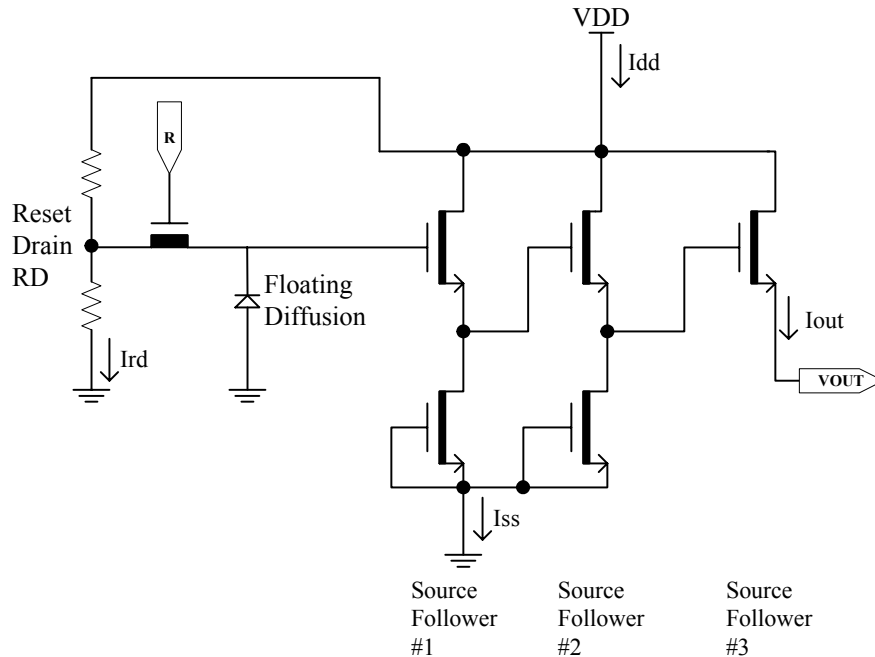

Figure 6 - Output Amplifier
- Each output. See Figure 6 - Output Amplifier. Note that the current bias affects the amplifier bandwidth.
1. The maximum DC current is for one output unloaded and is shown as Ird + Iss in Figure 6. This is the maximum current that the first two stages of one output amplifier plus the reset drain bias circuit will draw. This value is with Vout disconnected.